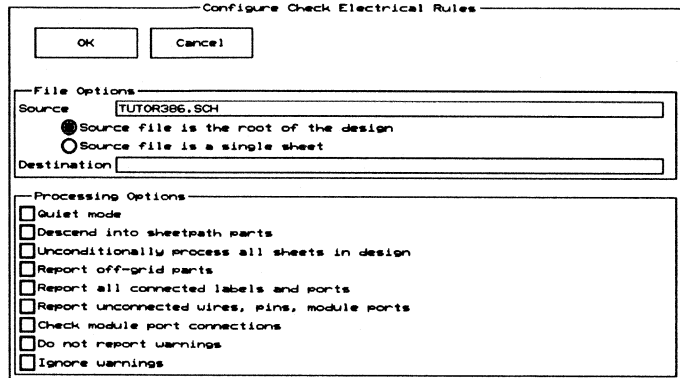

Figure 3-14. The *Configure Check Electrical Rules* screen.
1. Select **Check Design Integrity** from the **Schematic Design Tools** screen, then select **Local Configuration** and select **Configure ERC**. The **Configure Check Electrical Rules** screen displays (figure 3-14).